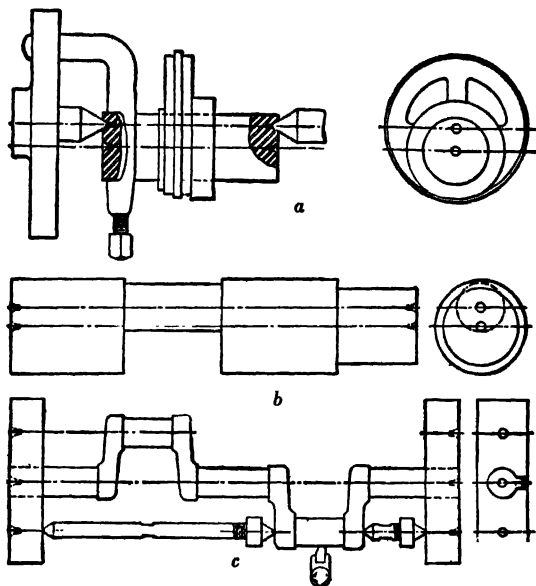

Fig. 14-35. Types of turning work: (a) eccentric, (b) and (c) crankshaft.
**To Turn a Crankshaft or an Eccentric.** When a cylindrically turned surface of a piece has an axis parallel to, but not coincident with, the normal axis of the piece, this surface is said to be *turned eccentric*. The work itself may be called an eccentric or a crankshaft as shown in Fig. 14-35. Both are much used in machine construction
to convert rotary into reciprocal motion or the contrary. To turn the eccentric surface it is necessary to provide centers offset from the centers of the normal axis an amount equal to one-half the throw desired, that is, one-half the amount of the reciprocating motion to be imparted or converted as the case may be. Three methods of providing the offset centers for turning eccentric cylindrical surfaces are illustrated in Fig. 14-35. An eccentric (Fig. 14-35a) is usually keyed to a shaft when in use and consequently is located on a mandrel, by a key or by a witness mark, and then turned. A mandrel with offset centers is shown in Fig. 14-35a. The crankshaft, Fig. 14-35b, is itself provided with an extra pair of